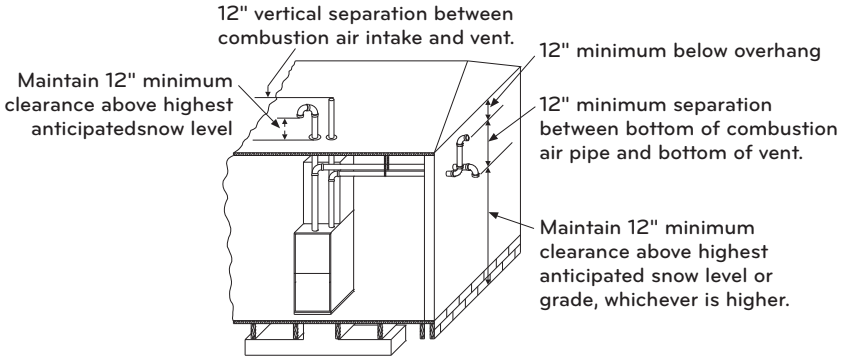
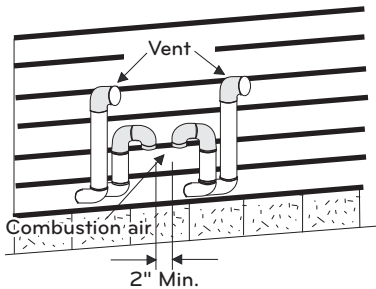

Fig.7-4 Termination Configuration - 2 Pipe
Fig.7-6 Double Horizontal Combustion Air Intake and Vent Termination
- Direct vent systems must be installed so the vent and the combustion air pipes terminate in the same atmospheric zone. Refer to Figures 7-4 or 7-5.
The combustion air side of the two-pipe configuration shown in Figure 7-4 can be installed so the combustion air pipe terminates as described in outdoor combustion air or ventilated combustion air sections in these instructions. Follow the instructions for outdoor combustion air or ventilated combustion air and the instructions for installing the vent system with the vent terminating as shown in Figures 7-6 or 7-7. The two-pipe system must have a separate combustion air pipe and a separate vent pipe for each furnace.
This is a direct vent configuration where the combustion air is supplied through a PVC or ABS pipe that is connected to the PVC coupling attached to the furnace and is terminated in the same atmospheric zone as the vent. This type of installation is approved on all models. Refer to Figure 7-6.
Combustion air is supplied from the area surrounding the furnace through openings in the furnace casing. The combustion air and the vent pipes are not terminated in the same atmospheric zone. Refer to Figure 7-4 for vent terminations. Refer to "Ambient Combustion Air Supply" for proper installation. Refer to Fig.7-6.